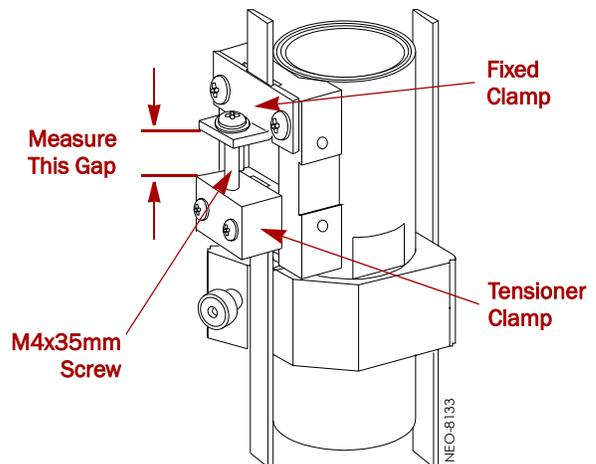

Figure 4. Shuttle Mount Assembly
4. At the Shuttle Mount Assembly (SMA), carefully and accurately **measure the gap** between the Fixed belt clamp and the Tensioner belt clamp (Figure 4).